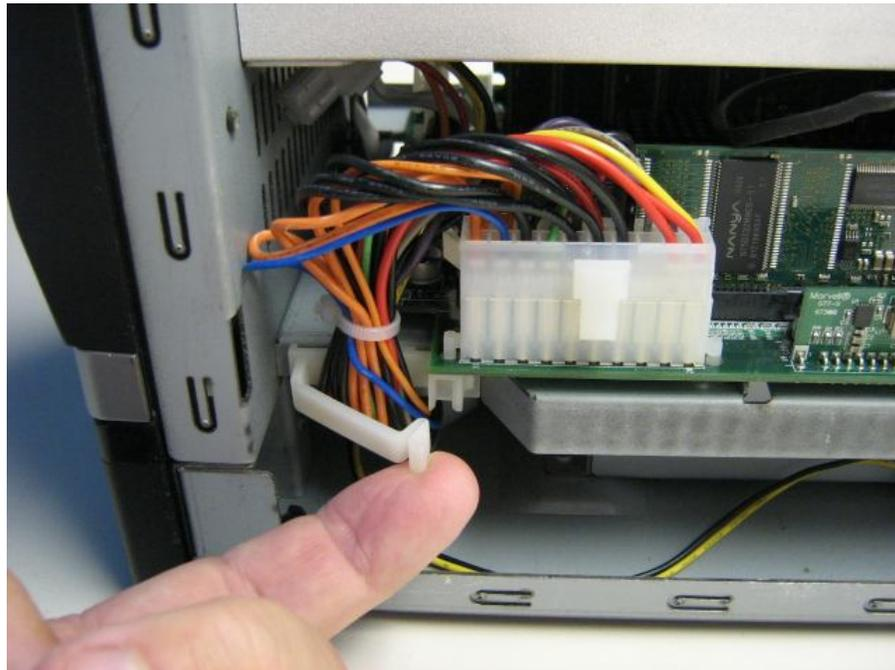

Figure A-26 Open the Power Supply Harness Retention Clip
6. Open the clip which holds the power supply wiring harness in place as shown in Figure A-26.